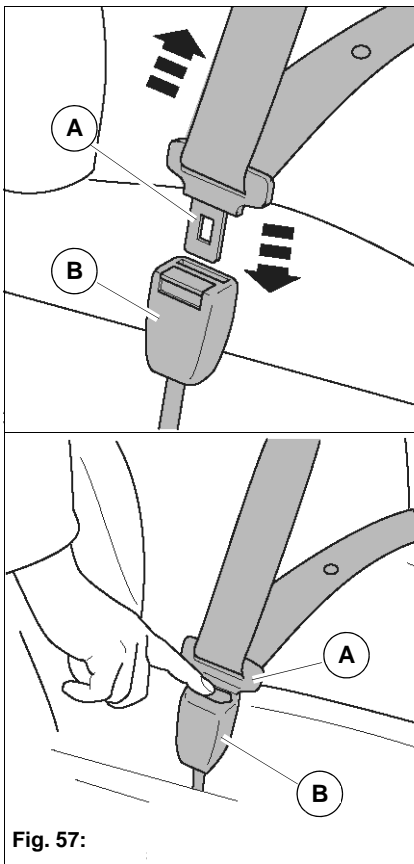

Fig. 57:
- Hold the belt strap at the buckle latch **Fig. 57-A** and pull it slowly and evenly across the lap to the belt lock **Fig. 57-B**.
- Insert the buckle latch **Fig. 57-A** into the belt buckle **Fig. 57-B** until it snaps in audibly (**check by pulling**).
- Press the red button on the belt lock **Fig. 57-B**.
- The buckle latch **Fig. 57-A** pops out of the belt lock by spring pressure.